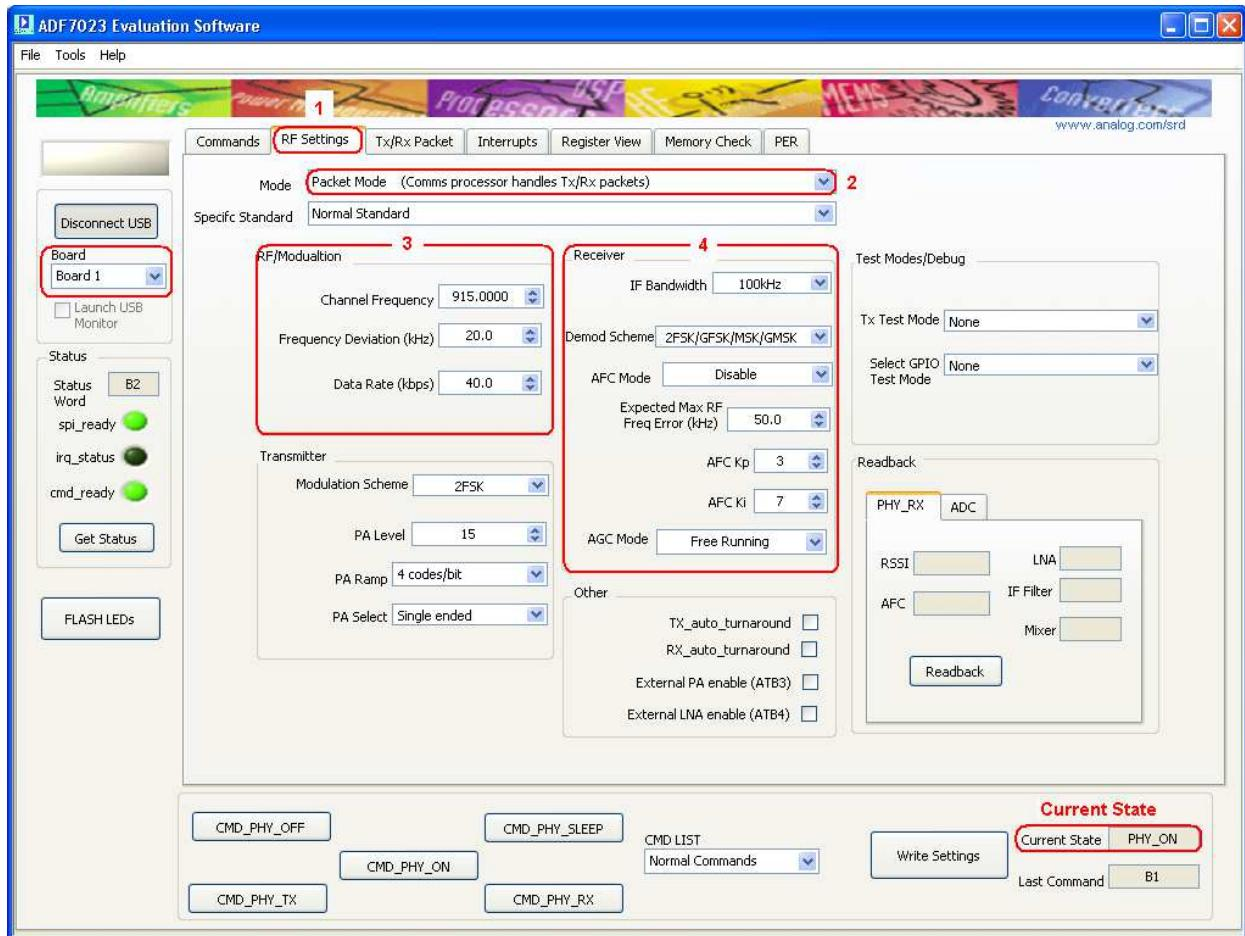

Figure 31
2. Select the “**RF Settings**” Tab (Figure 31 point **(1)**)
3. Ensure “**Packet mode**” is selected. (Figure 31 point **(2)**)
4. Set the “**RF/Modulation**” parameters as required. (Figure 31 point **(3)**)
5. Set the “**Receiver**” parameters as required. (Figure 31 point **(4)**)